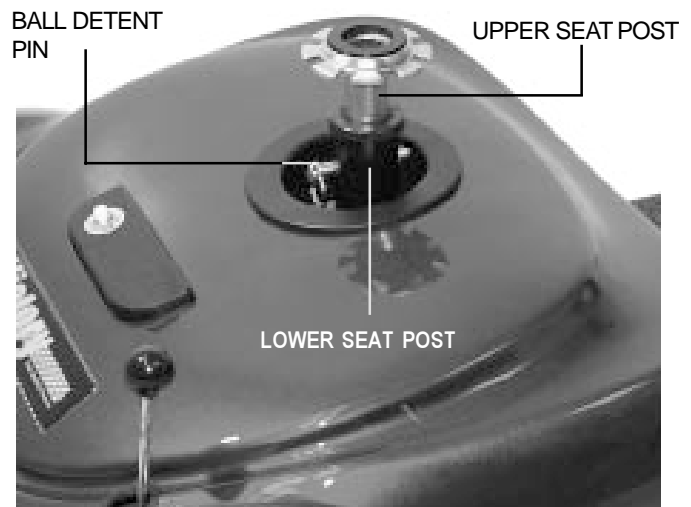

Figure 12. Seat Height Adjustment
2. Use the attached ring to pull and remove the ball detent pin from the lower seat post. See figure 12.